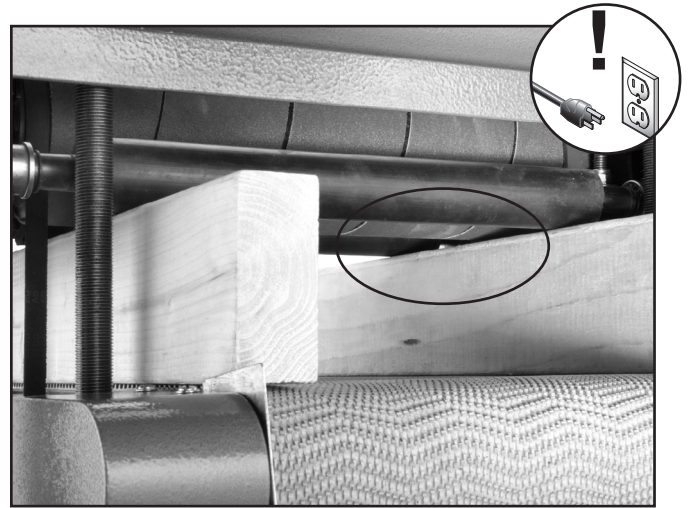

Figure 36. Pressure rollers set correct distance below bottom of sanding drum.
- Repeat **Steps 6–7** with the second pressure roller. Each pressure roller should look like **Figure 36** when properly adjusted.